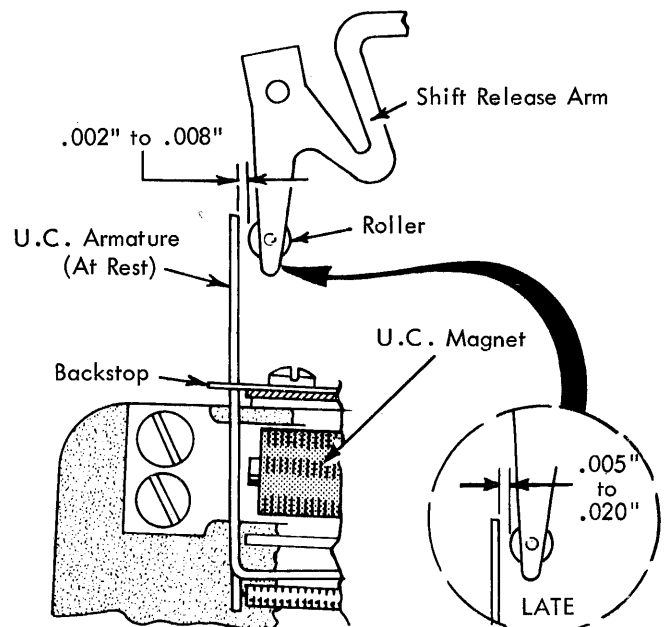

FIGURE 81. U.C. Armature Backstop
- 7. UC Armature Backstop, 15 Inch Machine (Early) Fig. 81 - Position (armature at rest) so that the UC armature clears the release arm roller by .002" to .008".
- 7.1. UC Armature Backstop (Late) (Fig. 81) - Position armature backstop (armature at rest) so that the UC armature clears the release arm roller by .005" to .020".